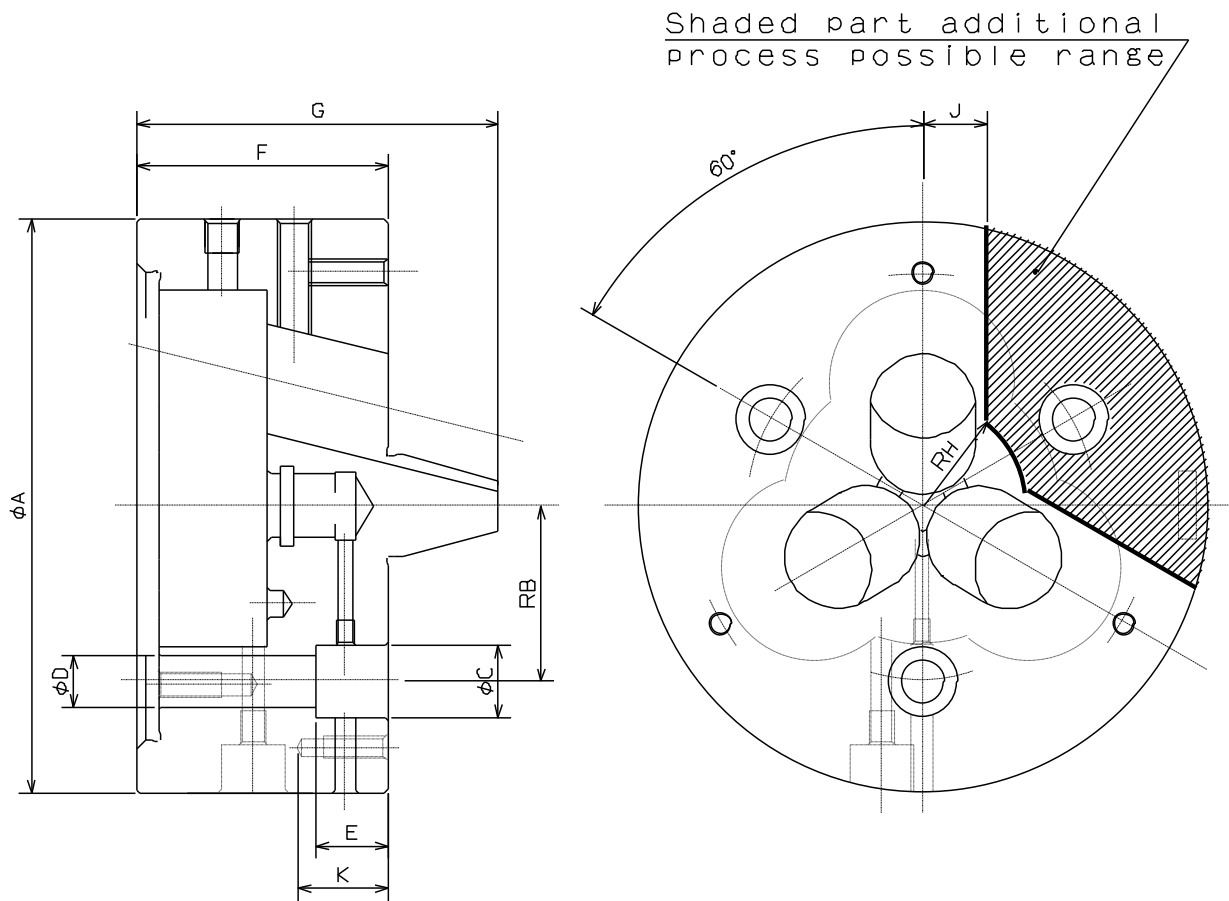

Fig.8
- In the case of attaching the locator and the jig on the chuck body surface, tap or drill a hole in the additional process range specified in Fig.8.